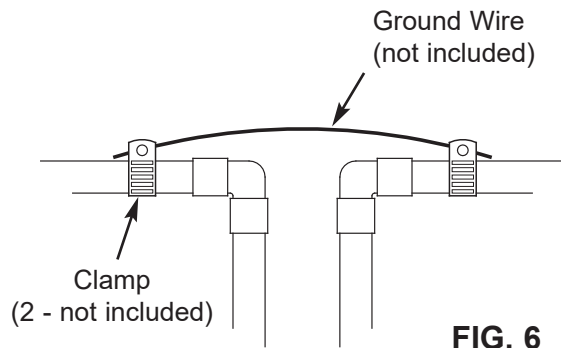

FIG. 6
- a. Install a #4 copper wire across the removed section of main water pipe, securely clamping it at both ends (See Figure 6) - parts not included.